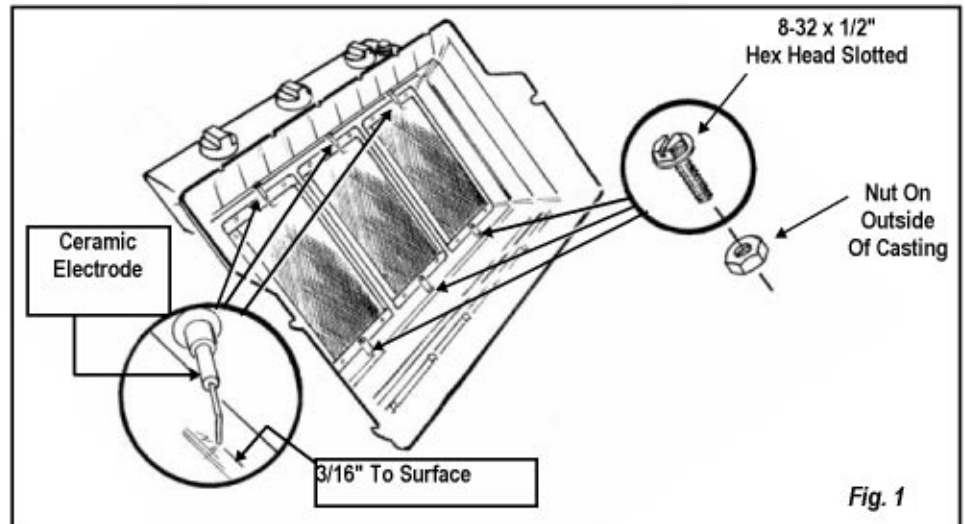

Fig. 1
### MOUNTING BRACKET TO GRILL (Fig. 1 and 2)
1. With a slotted screwdriver or 1/4" wrench, remove the rear mounting screw on the back of the burner venturi where it meets the grill head bottom. Use a 11/32" or adjustable wrench on the nut on the outside of the grill head bottom (Fig. 1).
1. With a slotted screwdriver or 1/4" wrench, remove the rear mounting screw on the back of the left and right burner where they meet the grill head bottom. Use a 11/32" or adjustable wrench on the nut on the outside of the grill head bottom (Fig. 1).